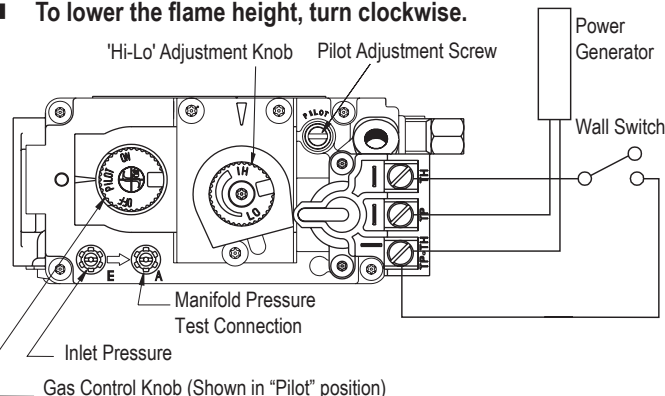

Figure 33. 'Hi-Lo' Adjustment on the SIT Nova 820 gas valve.
The H*34DF* is equipped with an adjustable burner, allowing you to raise or lower the flames. To adjust the flames, locate the black knob marked 'Hi-Lo', in the centre of the gas control valve (See Figure 33).
1. Locate Pilot Adjustment Screw. (See figure 33 or 34.)